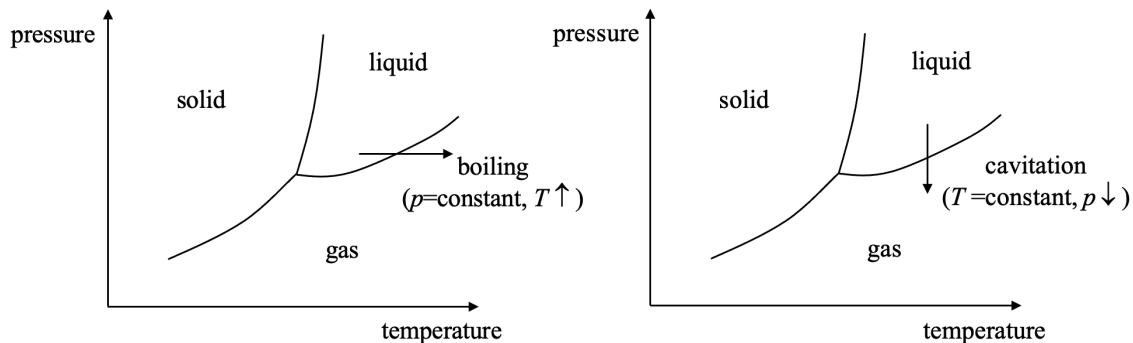

FIGURE 1.13. Phase diagrams (pressure vs. temperature) showing the processes of boiling (left) and cavitation (right).
- Boiling occurs when the temperature of the liquid increases so that the vapor pressure equals the surrounding atmospheric pressure. For example, the vapor pressure of water at 20 °C is 0.023 atm (abs) while the vapor pressure at 100 °C is 1 atm (abs). Hence, one method of turning liquid water to vapor is to bring the water temperature to 100 °C while holding the surrounding pressure at 1 atm (abs). This path is known as boiling and is shown schematically in the phase plot shown on the left-hand side of Figure 1.13.
- Cavitation occurs when the surrounding pressure drops below the vapor pressure. Using the previous example, we can also turn liquid water to water vapor by dropping the surrounding pressure to 0.023 atm (abs) at 20 °C. This path is shown schematically in the phase plot shown on the right-hand side of Figure 1.13.